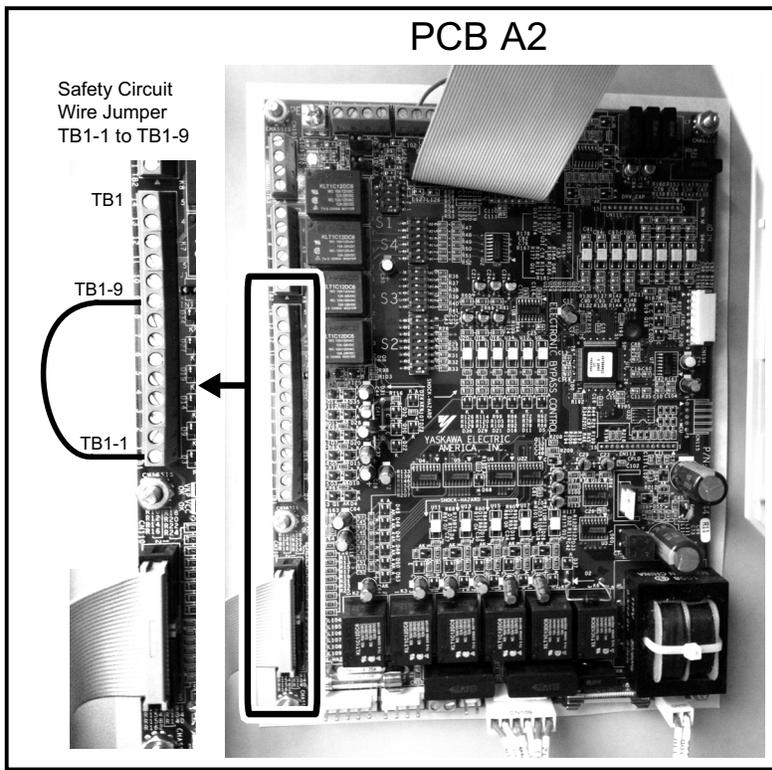

Figure 3 Option 2: Safety Circuit Wire Jumper
2. Option 2: Install a jumper between TB1-1 and TB1-9 on PCB A2 according to Figure 3. This method should be used if a Safety Circuit will be added later in the installation.